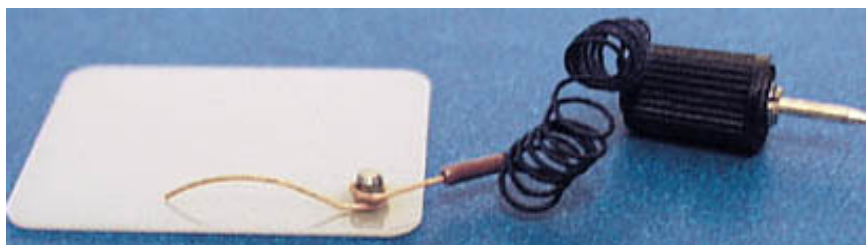

Fig. 2-102
- If it's necessary to provide electric connection between the sample and the elements of the device, then it's recommended to use a special substrate with a spring contact (Fig. 2-102);